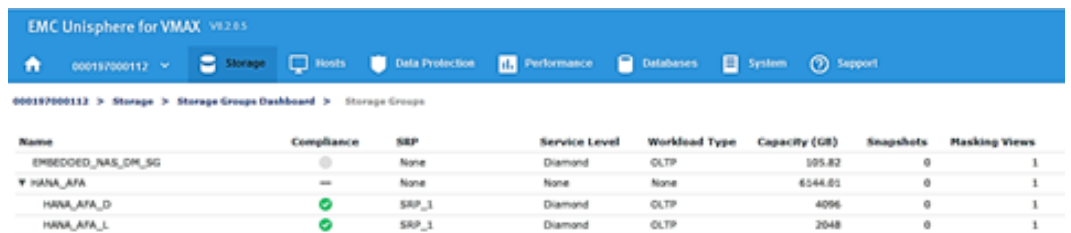

Figure 6. Existing storage groups
2. Click the **Total** tile to view the existing storage groups, as shown in Figure 6.